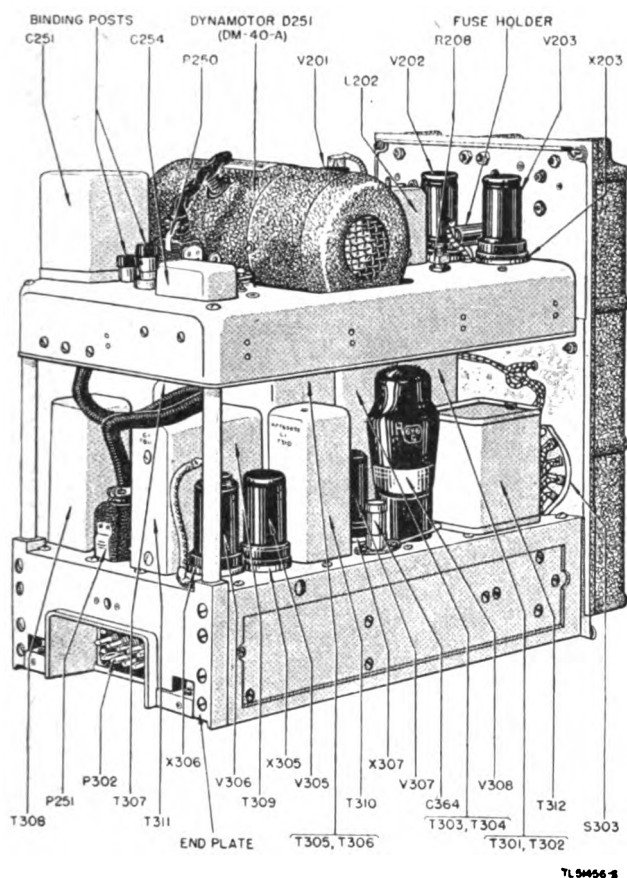

Figure 3. Radio Receiver BC-652-A, without case, rear oblique, left-side view.
a. PRELIMINARY. Loosen two front wingnuts holding Radio Receiver BC-652-A to its Mounting FT-253-A and slide the receiver forward, thereby disconnecting rear plug P302 (figs. 3 and 4) of the receiver from its socket in the mounting. Lift the receiver off its mounting. Loosen the two Dzus fasteners in the front panel and one in the lower rear of the case, which holds the receiver to the case. Pull the receiver out of the case.
b. CRYSTAL-FREQUENCY-CALIBRATOR CHASSIS. The crystal-frequency-calibrator chassis is located in the upper section of Radio Receiver BC-652-A. Remove the two fuses from the upper face of the front panel by unscrewing the plastic fuse holders. Remove plug P251 (figs. 3 and 4) from the receiver (lower section) chassis, by pressing side spring clips and pulling plug up. Remove grid clip from rear of antenna binding post A. Remove the two rear screws holding the crystal-frequency-calibrator chassis to the vertical supporting posts. Remove the screws and posts. Support the chassis with the free hand and remove the six screws which hold the upper section to the front panel. Remove the crystal-frequency-calibrator chassis from the main (receiver) chassis.
**c. DYNAMOTOR.** Remove dynamotor plug P250 (figs. 3 and 4) from its socket by pressing the side spring clip (fig. 6) and pulling up. Press
*b. PREPARATION.* (1) Make certain that plug P251 (figs. 3 and 4) is not plugged into receptacle on receiver chassis.
(2) Turn receiver and the crystal-frequency-calibrator unit ON-OFF switches to ON position, and CW-MVC-AVC switch to CW.
(2) *Input resistance check of receiver BC-652-A.* Insert crystal-frequency-calibrator connector plug P251 into its receptacle J304 on the receiver chassis. Check the input resistance to ground (receiver chassis) from the 12 terminals of receptacle J304 (fig. 5) and the nine pins of plug P302 (figs. 3 and 4) which connects Radio